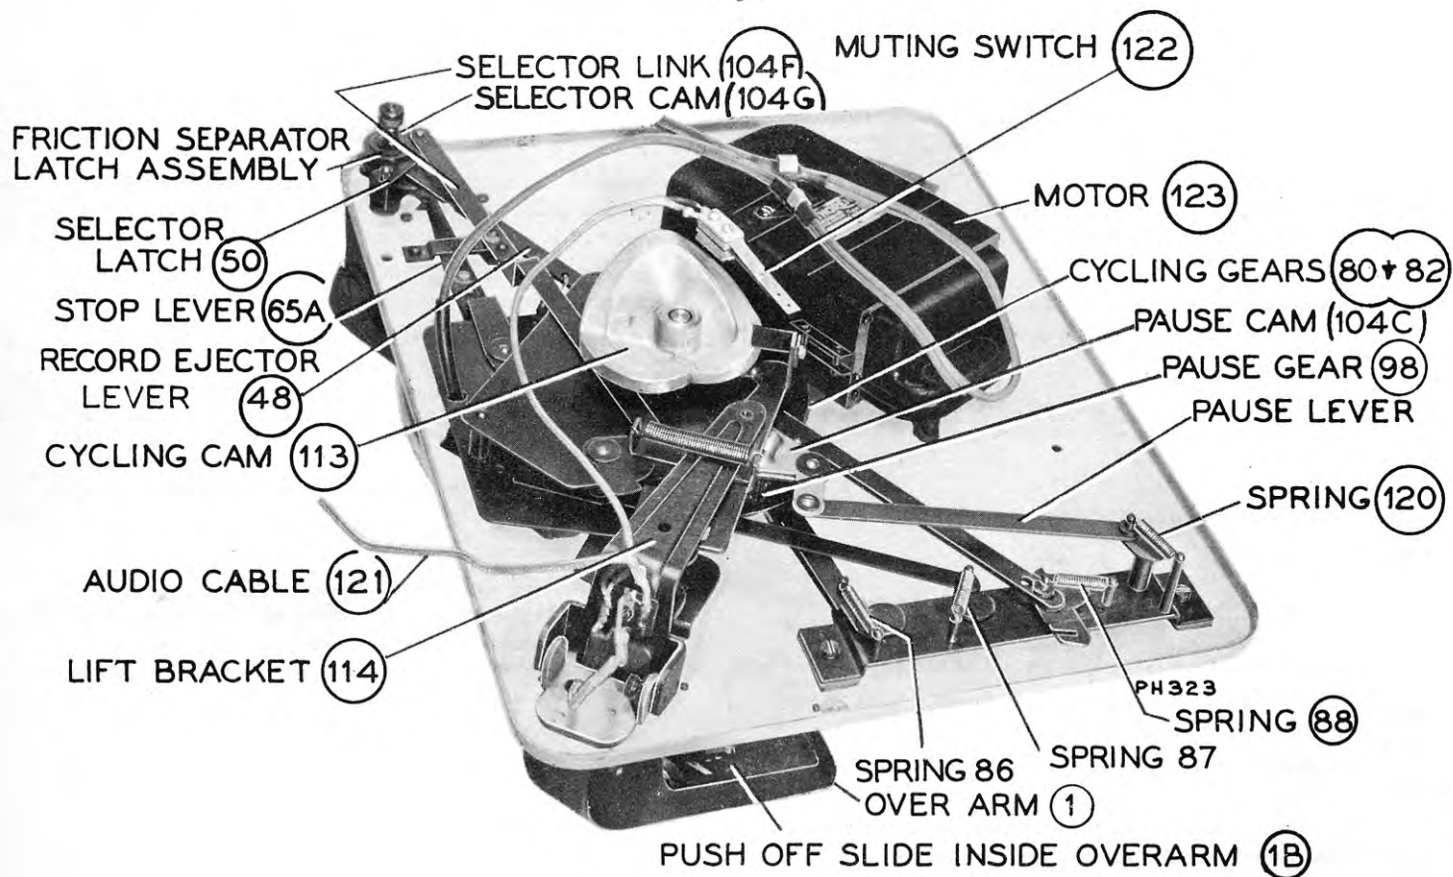

Fig. 2
Overarm (1), Fig. 2
Push-off Slide (1B), Fig. 2
Lift Bracket (114), Fig. 2
Cycling Cam (113), Fig. 2
Muting Switch (122), Fig. 2
Pause Gear (98) (103), Fig. 2